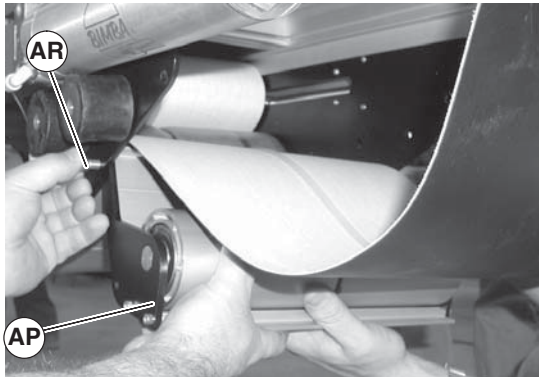

Figure 71
3. Swing down idler guard assembly (Figure 71, item AP). Remove screw (AR) from both sides of center drive and remove idler guard assembly (AP).